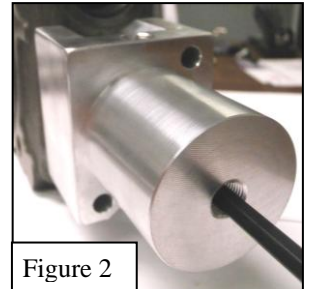

Figure 2
2. Secure Cylinder to Valve Spool using a 3/16" hex wrench in rear fitting port of Cylinder. as shown in Figure 2. Tighten firmly to 15 ft-lbs by holding spool on opposing end.